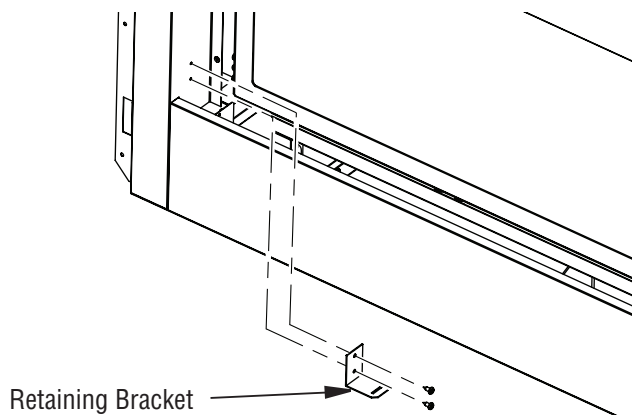

Figure 22 - Installing Access Door Retaining Brackets for See-Thru Applications
1. Screw access door retaining brackets into the inner side face using 2 screws on both the left and right side as shown in Figure 22.